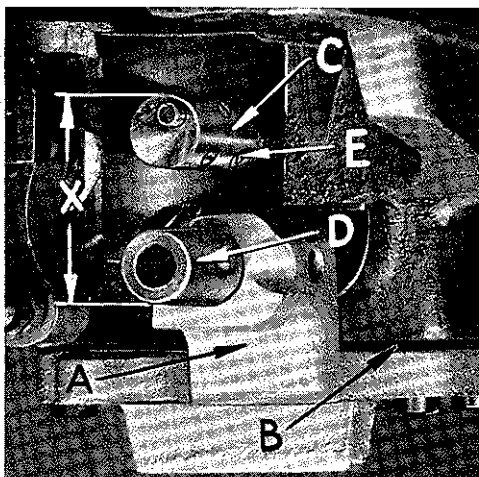

Fig. 16
bottom of 3/64 inch hole is even with the bottom of the lower needle bar bushing. At this time, the point of the sewing hook (B) should be even with the centerline of the eye needle on the 100 P and 100 NTN machines, centered between the eye needle and the hook needle on the 100 S machine and 1/16 inch past the eye needle in its direction of travel on the 100 LS machine. The above adjustment may be made by loosening the three screws (E, Fig. 16) in the hook driving barrel and rotating the barrel until the above condition is satisfied.
This is done by loosening the Allen screw located in the lower bracket. Move the sewing hook shaft bushing (D, Fig. 16) either to the left or right to locate the sewing hook properly. Re-tighten the Allen screw.
Should it become necessary to replace either the hook carrier bracket (A, Fig. 16) or the shim gasket (B) for it, it is extremely important that the proper distance between the hook barrel (C) and hook carrier bushing (D) be maintained. Use a micrometer to check this dimension as shown at "X" in Fig. 16. On Styles 100 P, 100 S, and 100 NTN, this dimension is 1.375 inch plus .005 inch and on Style 100 LS, it is 1.400 inch plus .005 inch.